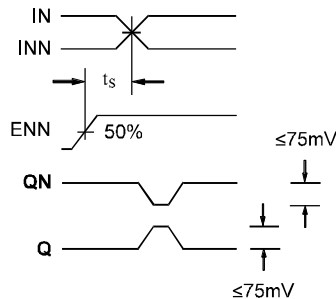

Figure 1. Setup Time
5. The setup time is the minimum time that ENN must be asserted prior to the next transition of IN/INN to prevent an output response greater than ± 75 mV to that IN/INN transition (see Figure 1).